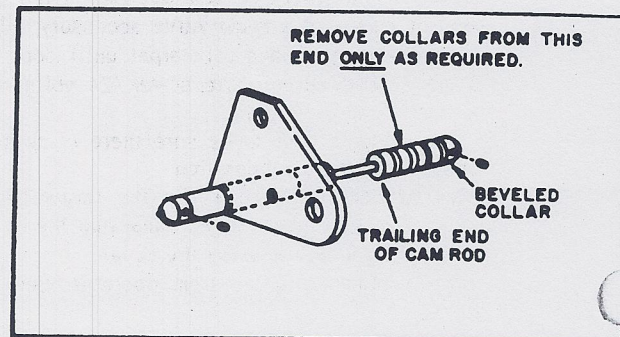

FIGURE 6
- a) Remove large collar from leading end of cam rod, and replace beveled collar. See Fig. 6
- c) If not, remove the collars from the trailing end of the cam rod as needed, but make sure that the beveled collar is reassembled to the cam rod before activating door. See Fig. 6